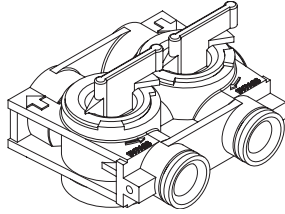

Figure 4
- Move the bypass valve handles to the bypass position. The valve handles should be perpendicular to the pipes (see figure 4).